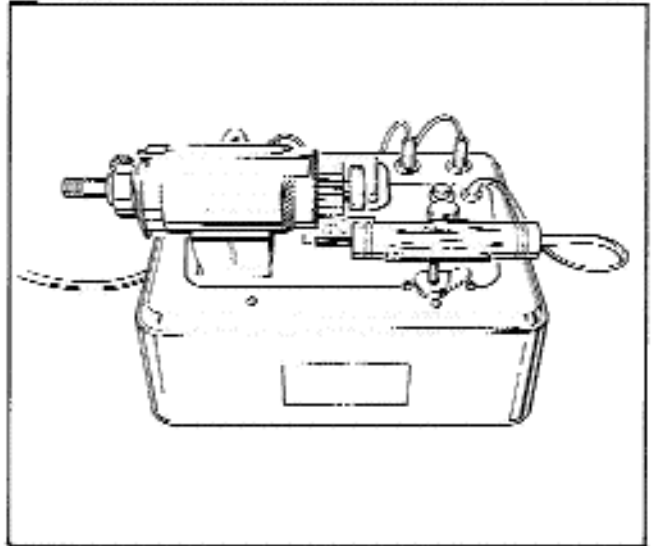

**Figure 11 - Armature Ground Test**
4. Touch one test probe to commutator and other to armature core. Test lamp should be OFF, indicating no continuity. If the test lamp is on, the armature is grounded and must be replaced. See Figure 11.